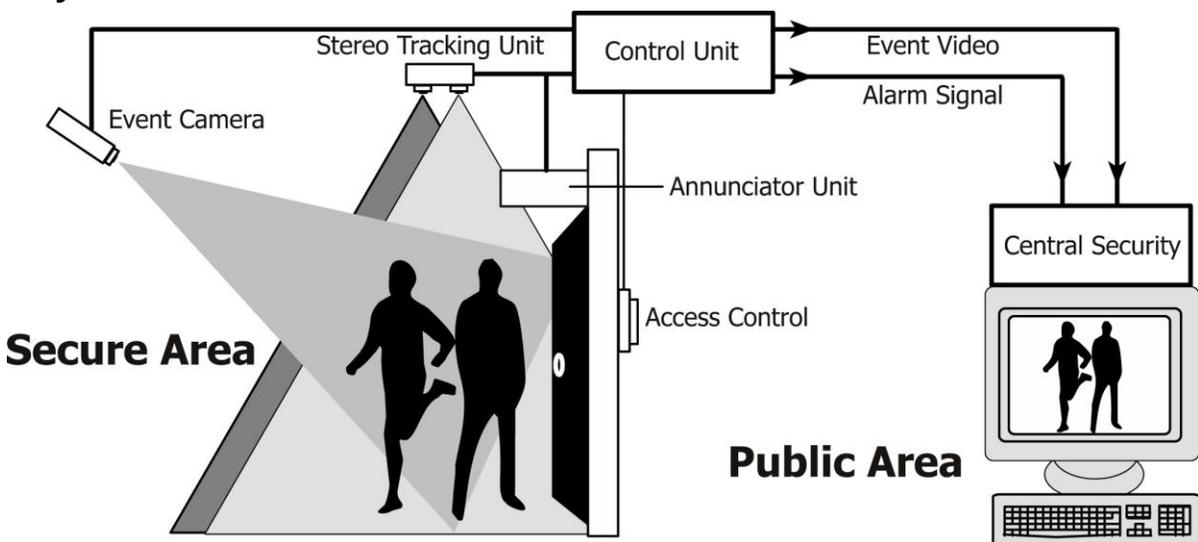

Figure 15 - Typical Configuration
3. Refer to Figure 15 for detailed examples of configuration.